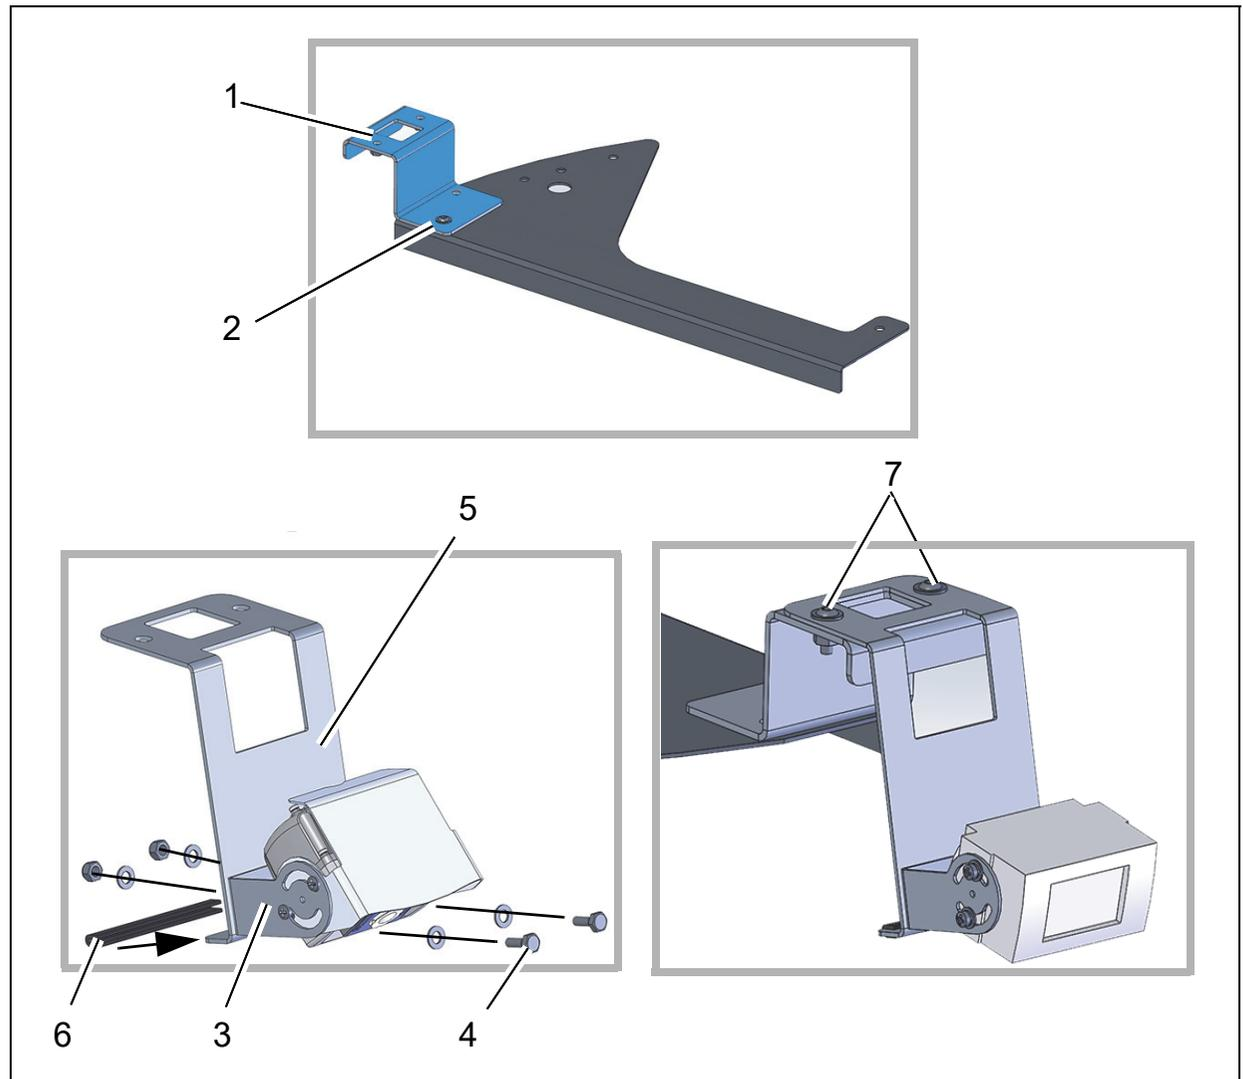

Fig. 4
Pre-assemble the options holder (Fig. 4/1) on the cover plate using one M6x12 flanged button head bolt (Fig. 4/2) (observe the correct position!).
1. Attach the camera (Fig. 4/3) using two M5x12 hexagon head bolts (Fig. 4/4), four A5.3 washers and two M5 nuts to the camera holder (Fig. 4/5).
2. Attach the edge protection (Fig. 4/6) to the camera holder.
Attach the pre-assembled camera holder to the options holder using two M6x16 flanged button head bolts (Fig. 4/7), two SKM 6 detent-edged washers and the M6 hexagon nuts.